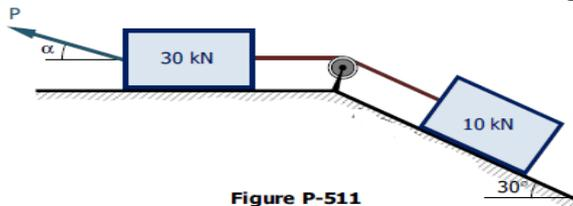

Figure P-511
- e) Find the least value of P required to cause the system of blocks shown in Fig. P-511 to have impending motion to the left. The coefficient of friction under each block is 0.20